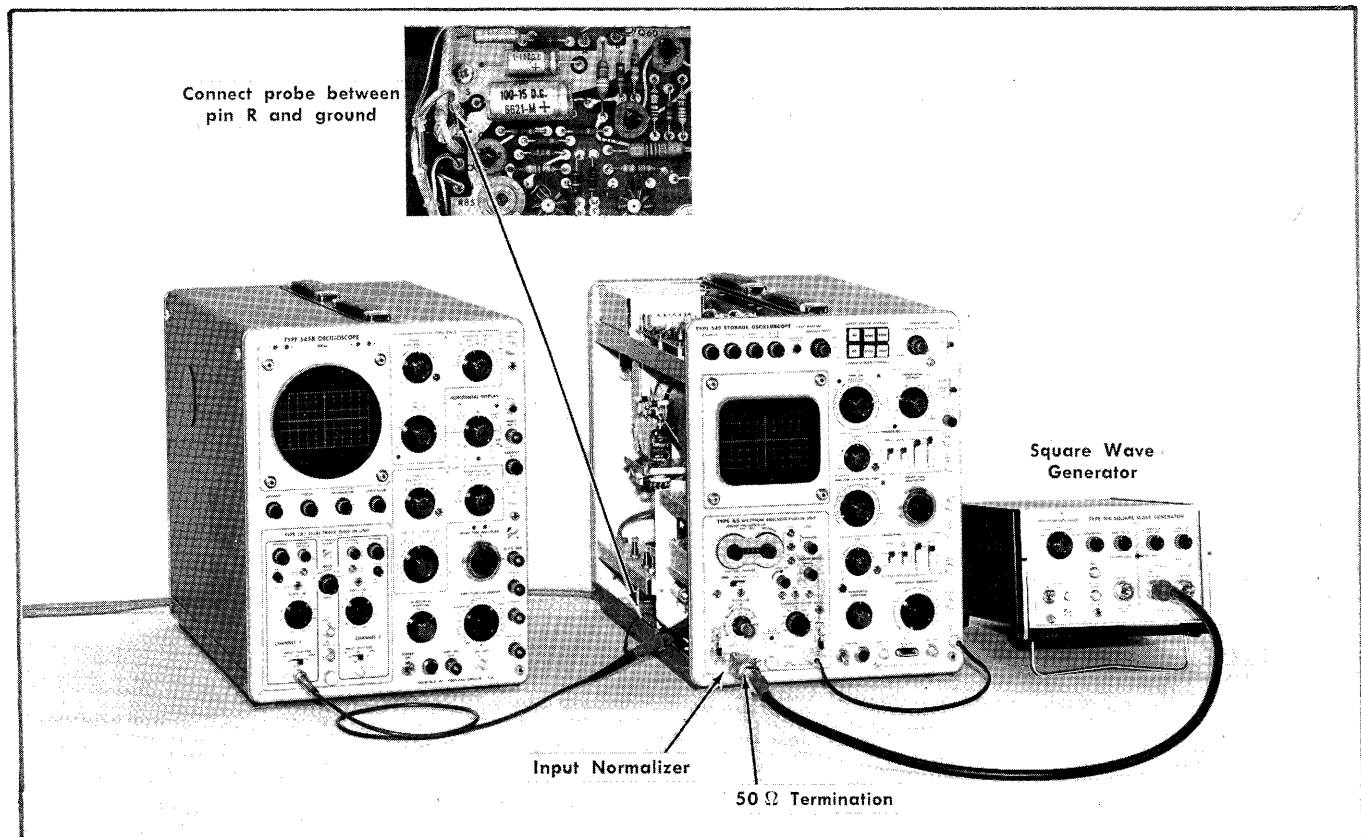

Fig. 6-16. Equipment setup for attenuator (VOLTS/CM) compensation adjustments.
①
- Equipment setup is shown in Fig. 6-16.
- Connect a properly compensated $10\times$ probe from the test oscilloscope, between pin R and ground of the Input Amplifier board. See Fig. 6-16.